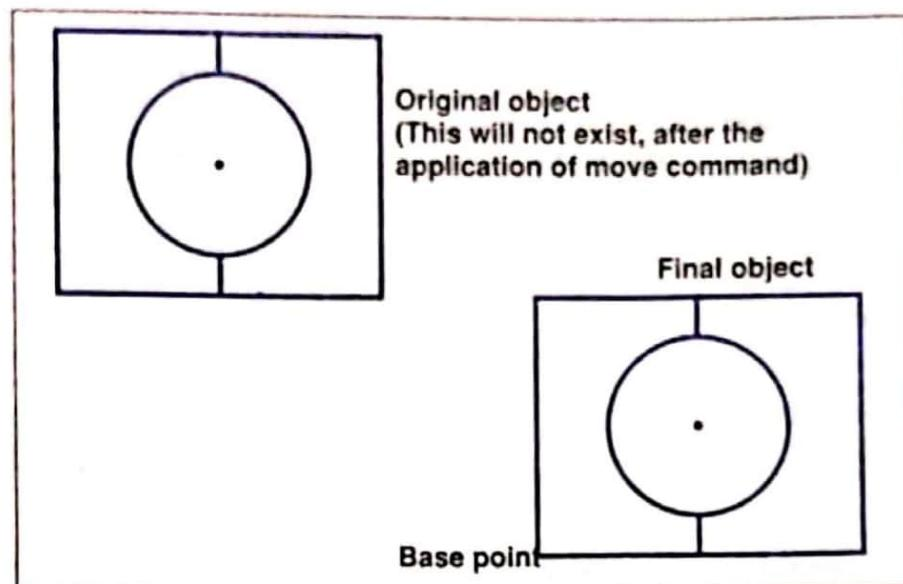

Fig. 19.29 Use of move command
- Press enter, see Fig. 19.29.